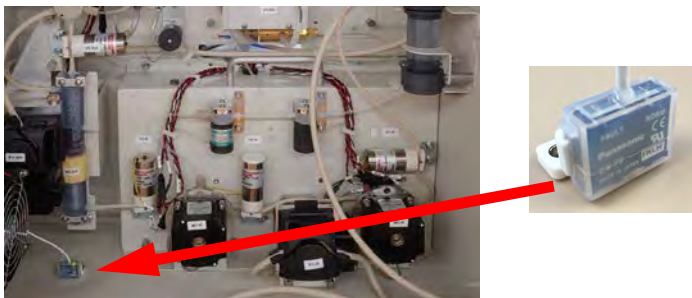

Figure 83: Liquid Sensor Location — Analyzer Enclosure
1. Verify that the Analyzer has a liquid sensor installed on the inside floor of the Analyzer (Figure 83). (If you are unsure of the presence of a liquid sensor, do NOT enable this feature.)